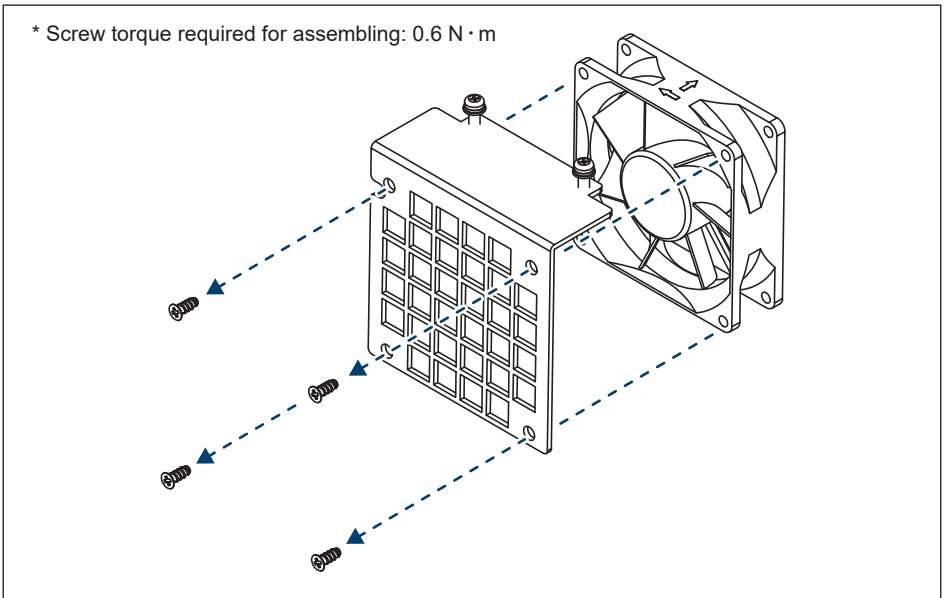

Figure 5-17: Replace with a new fan
- (3) Lift the entire fan assembly. (**Figure 5-17**)
- (4) Clean assembly or replace with a new fan.
- (5) Reassemble by using $0.8 \text{ N} \cdot \text{m}$ tightening torque.